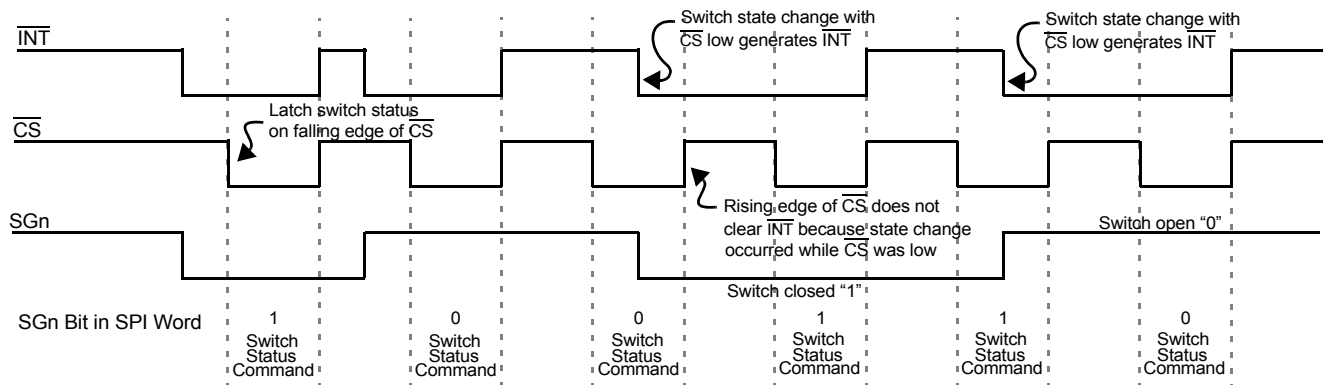

Figure 6. Normal Mode Interrupt Operation
1. \overline{INT} terminal is reset to logic [1], except when additional switch changes occur during \overline{CS} low (see Figure 6, page 10).
Figure 6, page 10, is a graphical description of the device operation in Normal mode. Switch states are latched into the input register on the falling edge of $\overline{\text{CS}}$. The $\overline{\text{INT}}$ to the MCU is cleared on the rising edge of $\overline{\text{CS}}$. However, $\overline{\text{INT}}$ will not clear on rising edge of $\overline{\text{CS}}$ if a switch has closed during SPI communication ($\overline{\text{CS}}$ low). This prevents switch states from being missed by the MCU.